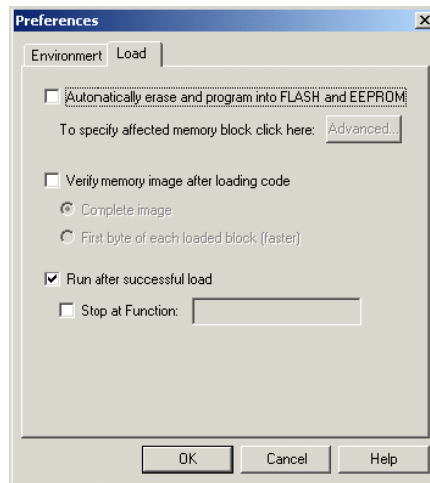

Figure 14. The preferences Dialog Box
- The "Non Volatile Memory Control" dialog box opens as shown in Figure 14.